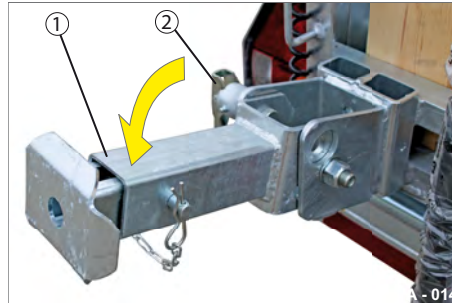

Fig. 4 Folding support folded out
- ▶ Fold down the folding support (Fig. 4/1).
- ▶ Release the spring bar (Fig. 4/2). The spring bar locks automatically when the folding support is completely folded out.